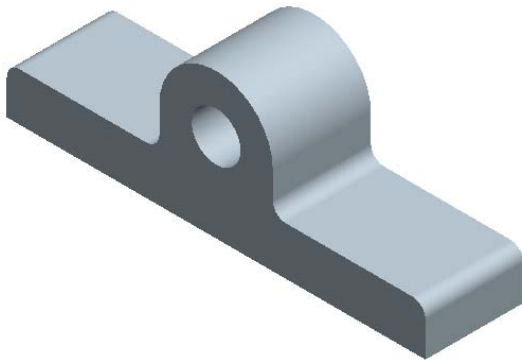
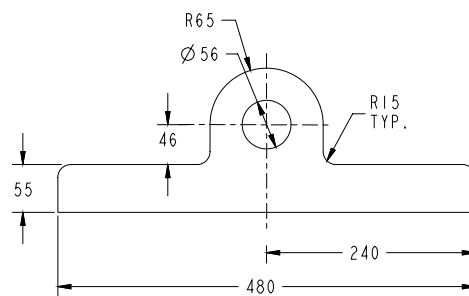

Figure 2-37 Model for Tutorial 3
Figure 2-38 Sketch of the model
In this tutorial, you will draw the sketch for the model shown in Figure 2-37. The sketch is shown in Figure 2-38. **(Expected time: 30 min)**
4. Modify all dimensions. Refer to Figure 2-38 for dimension values.